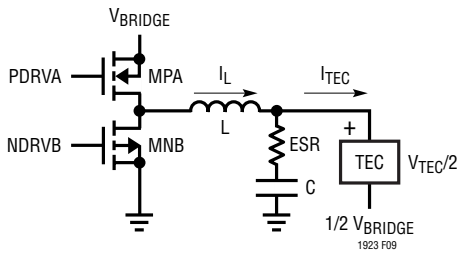

Figure 9. Full-Bridge Half Circuit
validating this assumption that the TEC current is constant (see TEC Ripple Current section). A simplified half-circuit of the bridge in steady-state is shown in Figure 9. The current, I_L , through the inductor (L) consists of the ripple current (ΔI_1) and static TEC current (I_{TEC}). The ripple current magnitude, ΔI_1 , can be calculated using the following equation: